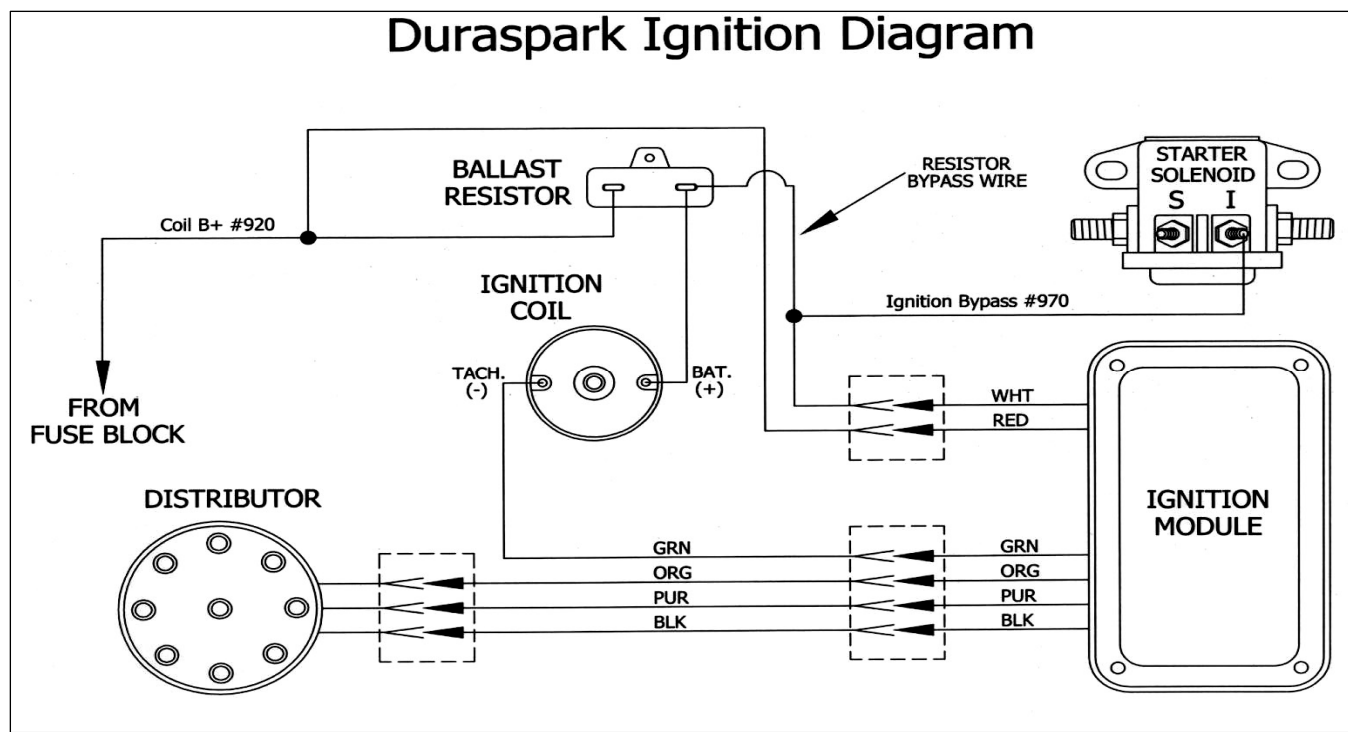

Figure 7-9 Ford Duraspark II Systems (Ford Electronic Ignition)
Electronic: 7.3.4 and Figure 7-9
- 7.3.4** If the truck has a Ford Duraspark II Electronic Ignition system refer to **Figure 7-9** for wiring details. If the terminals in the plugs on the stock Duraspark Ignition harness are corroded or the wires are frayed, then the harness will need to be replaced with **Painless Wiring P/N 30812.**